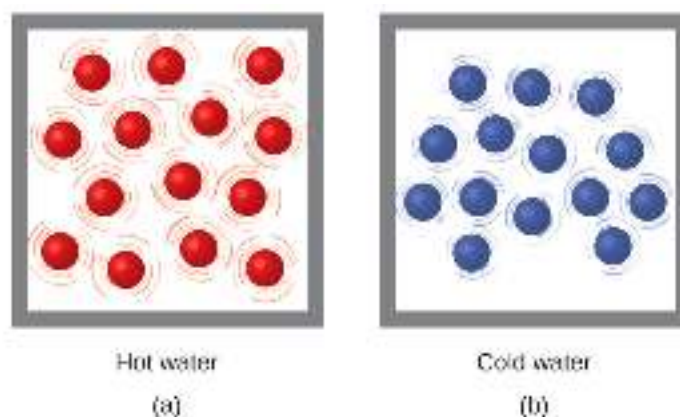

Figure 5.4 (a) The molecules in a sample of hot water move more rapidly than (b) those in a sample of cold water.
Thermal energy is kinetic energy associated with the random motion of atoms and molecules. **Temperature** is a quantitative measure of “hot” or “cold.” When the atoms and molecules in an object are moving or vibrating quickly, they have a higher average kinetic energy (KE), and we say that the object is “hot.” When the atoms and molecules are moving slowly, they have lower average KE, and we say that the object is “cold” (**Figure 5.4**). Assuming that no chemical reaction or phase change (such as melting or vaporizing) occurs, increasing the amount of thermal energy in a sample of matter will cause its temperature to increase. And, assuming that no chemical reaction or phase change (such as condensation or freezing) occurs, decreasing the amount of thermal energy in a sample of matter will cause its temperature to decrease.